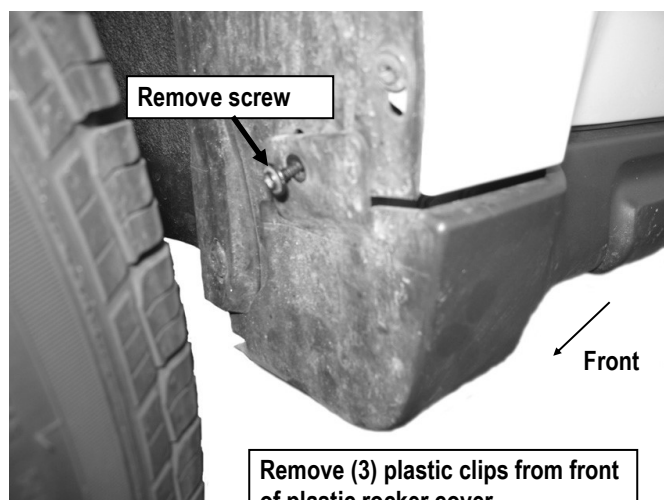
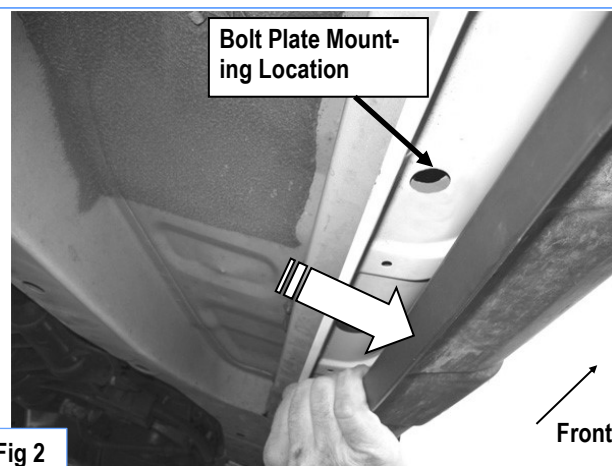

Fig 1
Fig 2
Start installation from the driver side of the vehicle. Remove the sheet metal screw in the rear of the front fender. Next, remove the (3) plastic clips from under the front of the plastic rocker trim panel, (Fig 1). Once these are removed, gently pull the plastic panel toward the outside to locate the factory hole in the body panel, (Fig 2). **NOTE:** Hold the front Mounting Bracket up in position to determine the approximate location of the correct mounting hole.